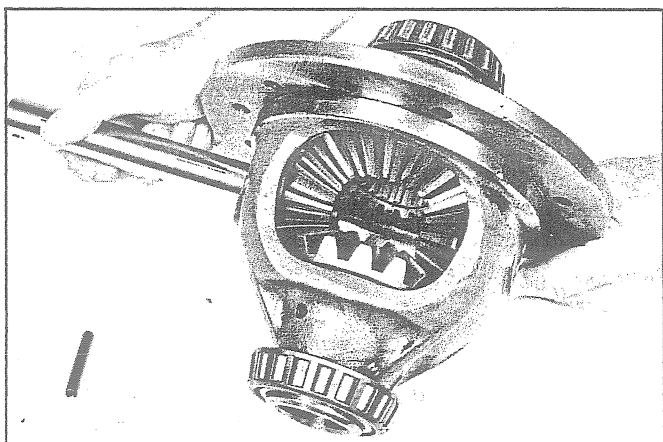

Fig. 111 - Removing Pinion Shaft
13. Remove Pinion shaft as shown in Fig. 111.
4. Insert pinion shaft through holes in case and pinions as shown in Fig. 111. Make certain that the lock pin hole in shaft is at the same side of, and aligned with the lock pin hole in case.